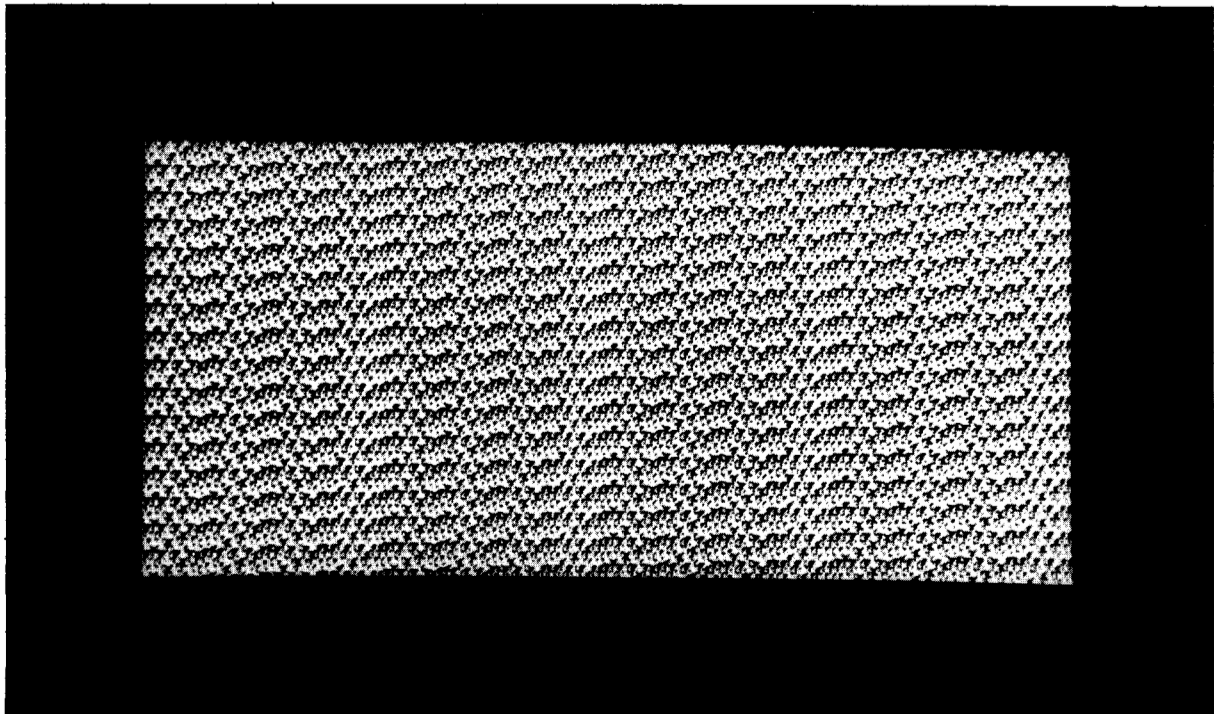

Figure 2-10. CRT Test Pattern 2
- c. The pattern (CRT test pattern 2) shown in figure 2-10. This pattern remains on the screen for about 15 seconds.